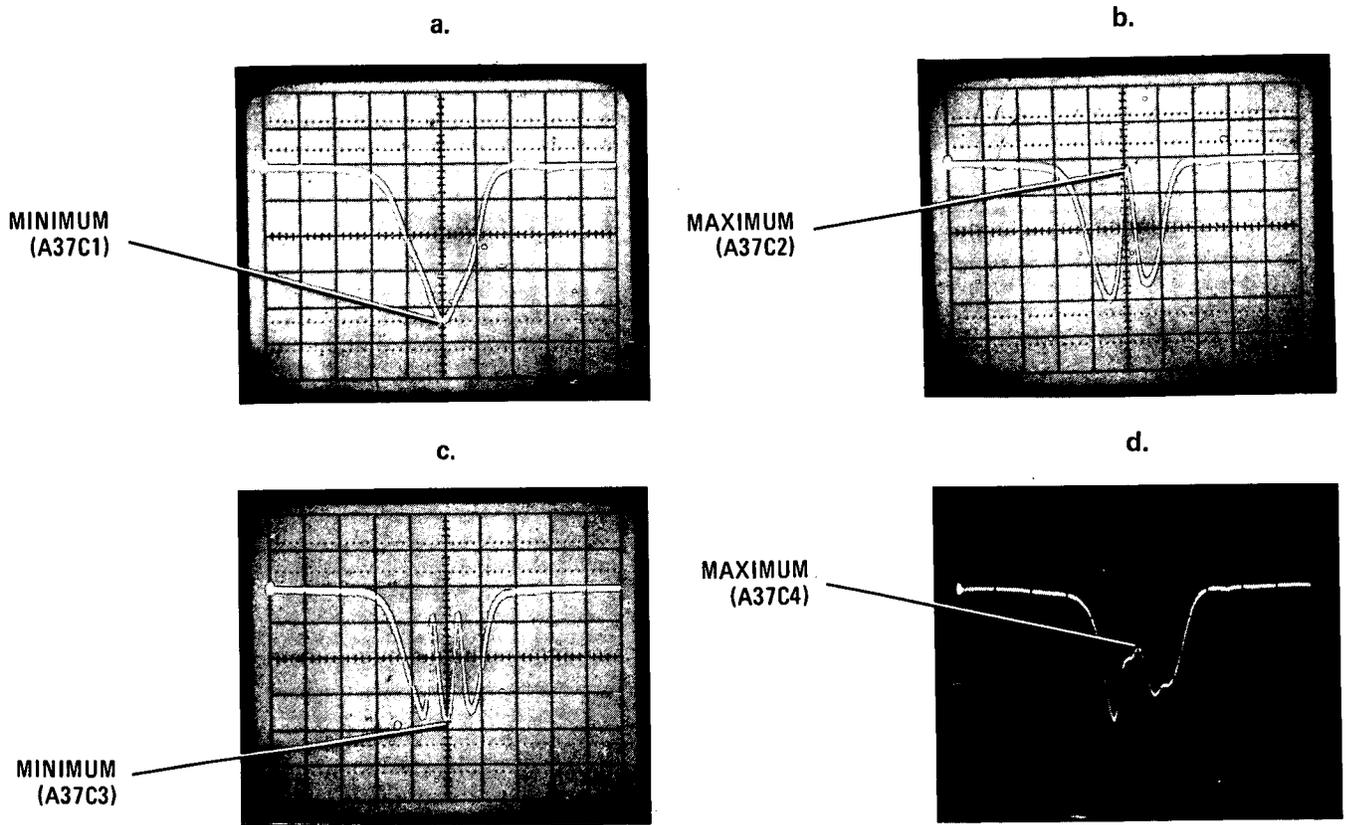

Figure 5-37. 321.4 MHz Bandpass Filter Alignment, Oscilloscope Display
**This procedure uses a negative-polarity detector. If a positive-polarity crystal detector is used the waveforms in Figure 5-37 will be inverted.**